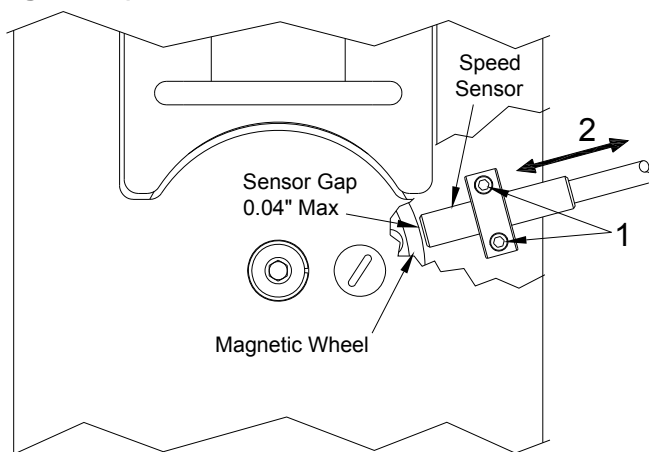

Figure 33
To set the gap you will need a 1mm (0.04"), or smaller, gap gauge. Loosen the two screws (1) securing the sensor within the mounting bracket to allow movement of the sensor within the bracket (Figure 33).